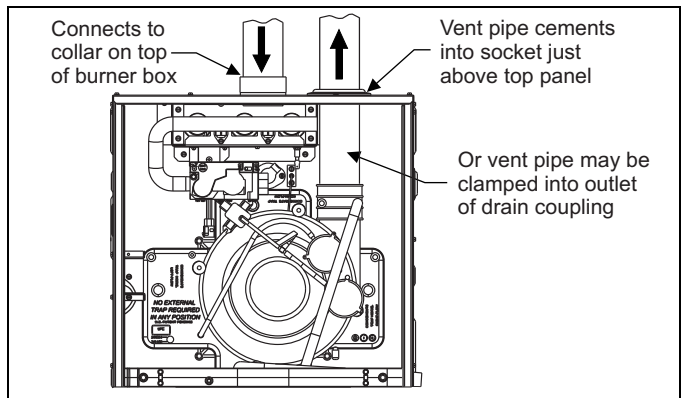

FIGURE 40: Direct Vent Air Intake Connection and Vent Connection
1. **OUTDOOR COMBUSTION AIR:** This is a direct vent configuration where the combustion air is supplied through a PVC or ABS pipe that is connected to the PVC coupling attached to the furnace and is terminated in the same atmospheric zone as the vent. This type of installation is approved on all models. Refer to Figure 40.
This installation requires combustion air to be brought in from outdoors. This requires a properly sized pipe (Shown in Figure 40) that will bring air in from the outdoors to the furnace combustion air intake collar on the burner box. The second pipe (Shown in Figure 40) is the furnace vent pipe.